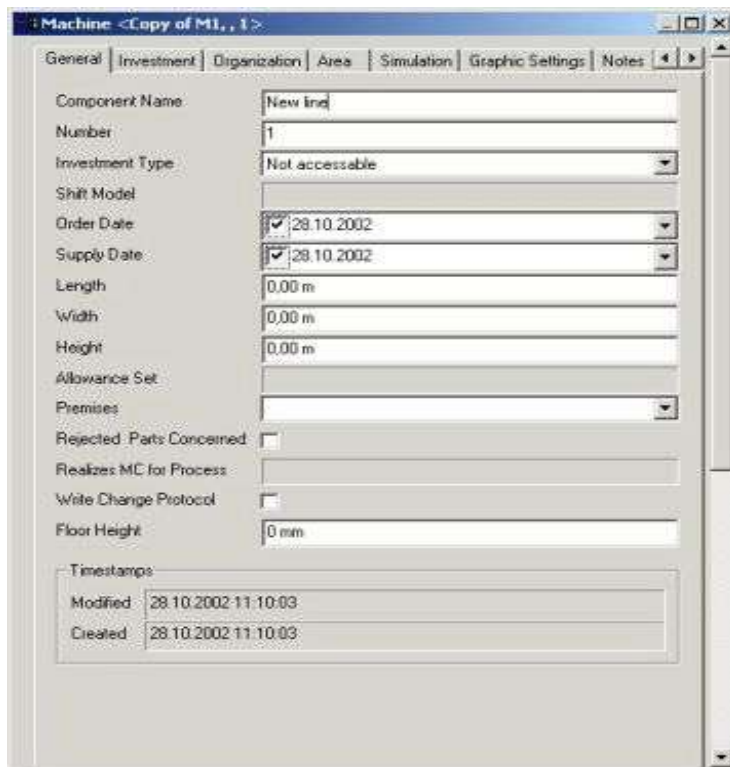

Figure 72: Properties Dialog - Multiple Usage
- 2) The **Properties** dialog allows you to enter specific data for Multiple Usage. Such data may include a designation or information on how to change the dimensions (length, width, and/or height) for the Multiple Usage project. *Please refer to the Figure 72.*